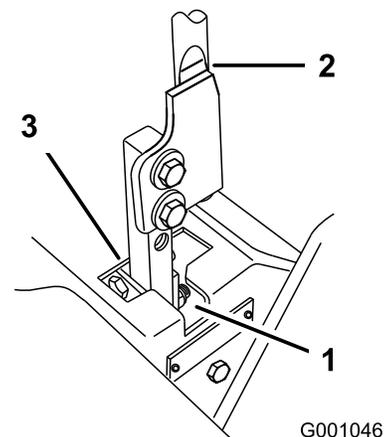

Figure 93
5. Move the lever to the neutral position but not locked (Figure 93).
6. Pull the lever back until the clevis pin (on arm below pivot shaft) contacts the end of the slot (just beginning to put pressure on the spring) as shown in Figure 93.
7. Check where the control lever is relative to the notch in the console (Figure 93).